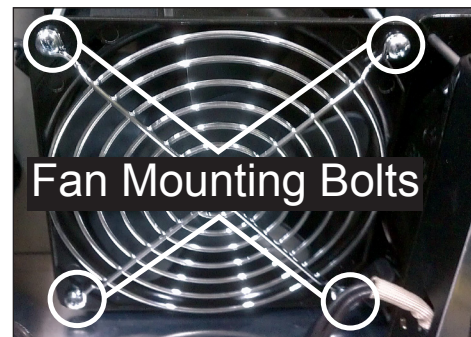

Figure 22: ISP Enclosure Fan Assembly
2. Using a Phillips screwdriver, remove the four fan mounting bolts that secure the fan to the ISP enclosure. Refer to **Figure 22**.